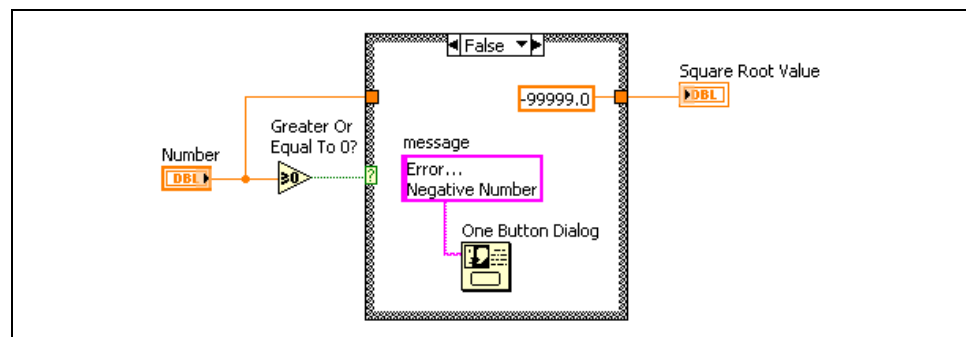

Figure 3-43. Square Root VI Block Diagram
Build the block diagram shown in Figure 3-43.
- Finish wiring the False case as shown in Figure 3-43.